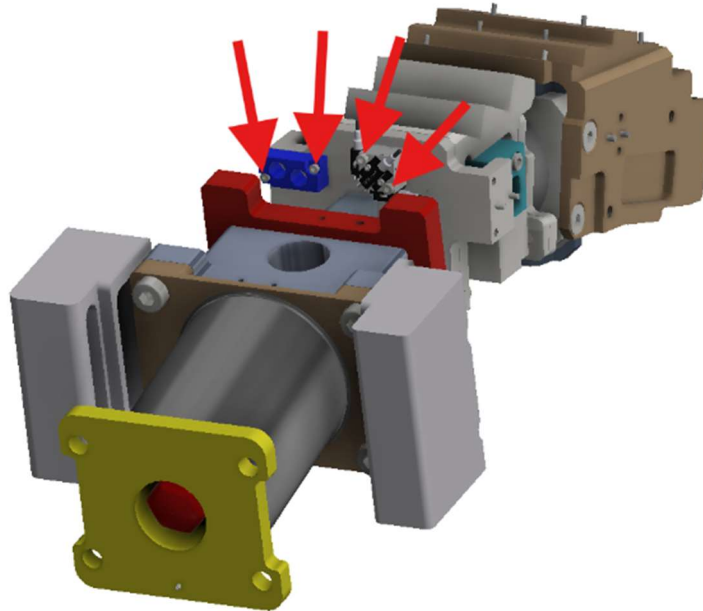

Figure 5-40. Install the T6 tilt sensor (SA572-S44) and Tri-Pack Block (SA572-S80M) to the underside of the Spinebox Interface Plate (474-3062)
- 5.3.2 Install the T6 Tilt Sensor to the Spinebox Interface Plate (474-3072) using two M2 X 0.4 X 10 LG. SHCS (Figure 5-40).
- 5.3.3 Attach the THOR-05F Mid-Spine Mounting Block (474-3066) to the Spinebox Interface Plate using two M2.5 X 0.45 X 14 LG. SHCS (Figure 5-40).